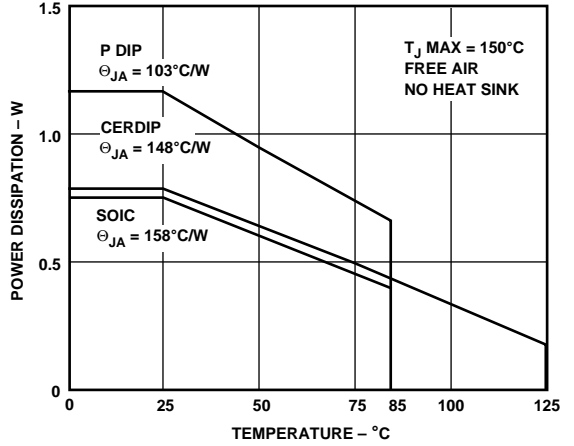

Figure 16. Maximum Power Dissipation vs. Ambient Temperature
- Maximum Power Dissipation ..... See Figure 16